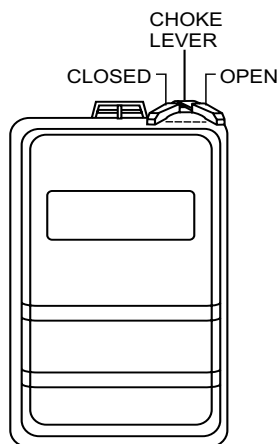

Figure 16. Choke Lever
2. Place the choke lever (Figure 16) in the **CLOSED** position if starting a cold engine.
3. Place the choke lever (Figure 16) in the **OPEN** position if starting a warm engine or the temperature is warm.
6. If the engine has started, slowly return the choke lever (Figure 16) to the **OPEN** position. If the engine has not started repeat steps 1 through 5.